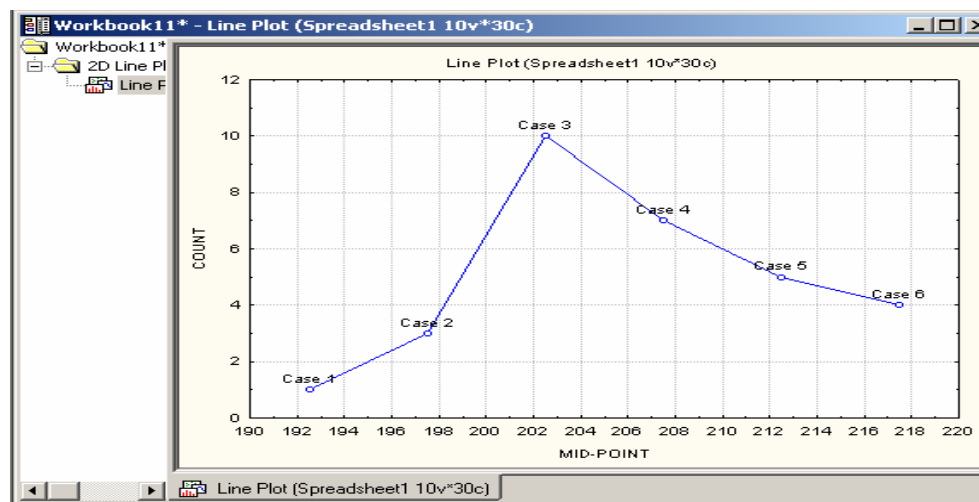

Figure 2.9 Frequency Polygon
3. Variables (choose variables) / OK / OK, which should give figure 2.9.